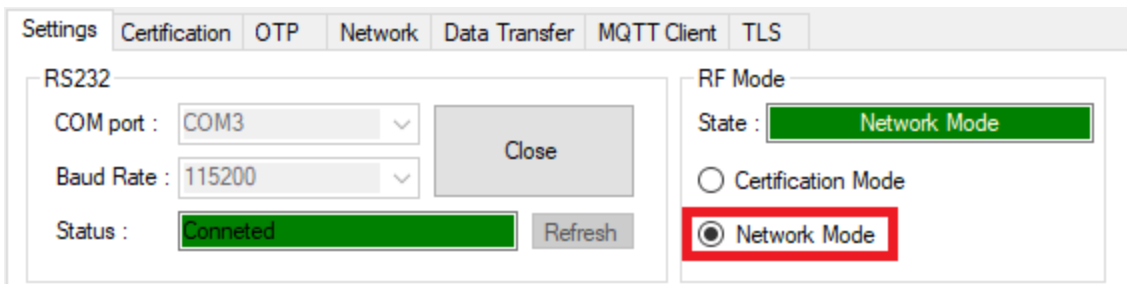

Figure 14: Network Mode Configuration
2. Select the **Network Mode** option. See Figure 14.